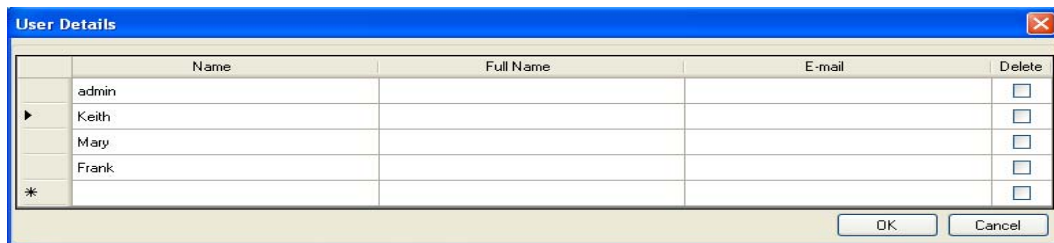

Figure 14. Scheduler User Details Window.
3. To add a new user, select **View > User Details** or click the **Manage Users** button below the Users list. In the User Details window (Figure 14), enter the new user name in the Name column. An e-mail address can be entered so that optional electronic notifications can be sent.